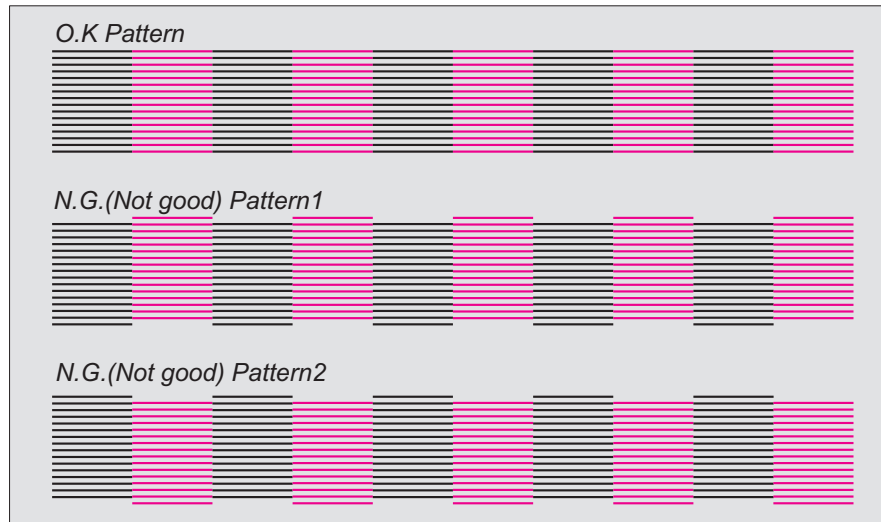

Figure 5-29. Judgment Standard for Head Height Adjustment
- Step12. Refer to O.K pattern in the figure5-29, and repeat Step4 through 11 until the head height adjustment is completed.